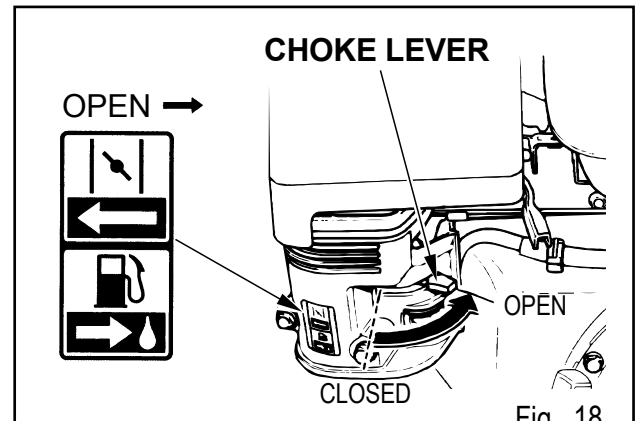

Fig. 18
6. If the choke lever or choke rod (applicable types) has been moved to the CLOSED position to start the engine, gradually move it to the OPEN position as the engine warms up. (Fig.18)